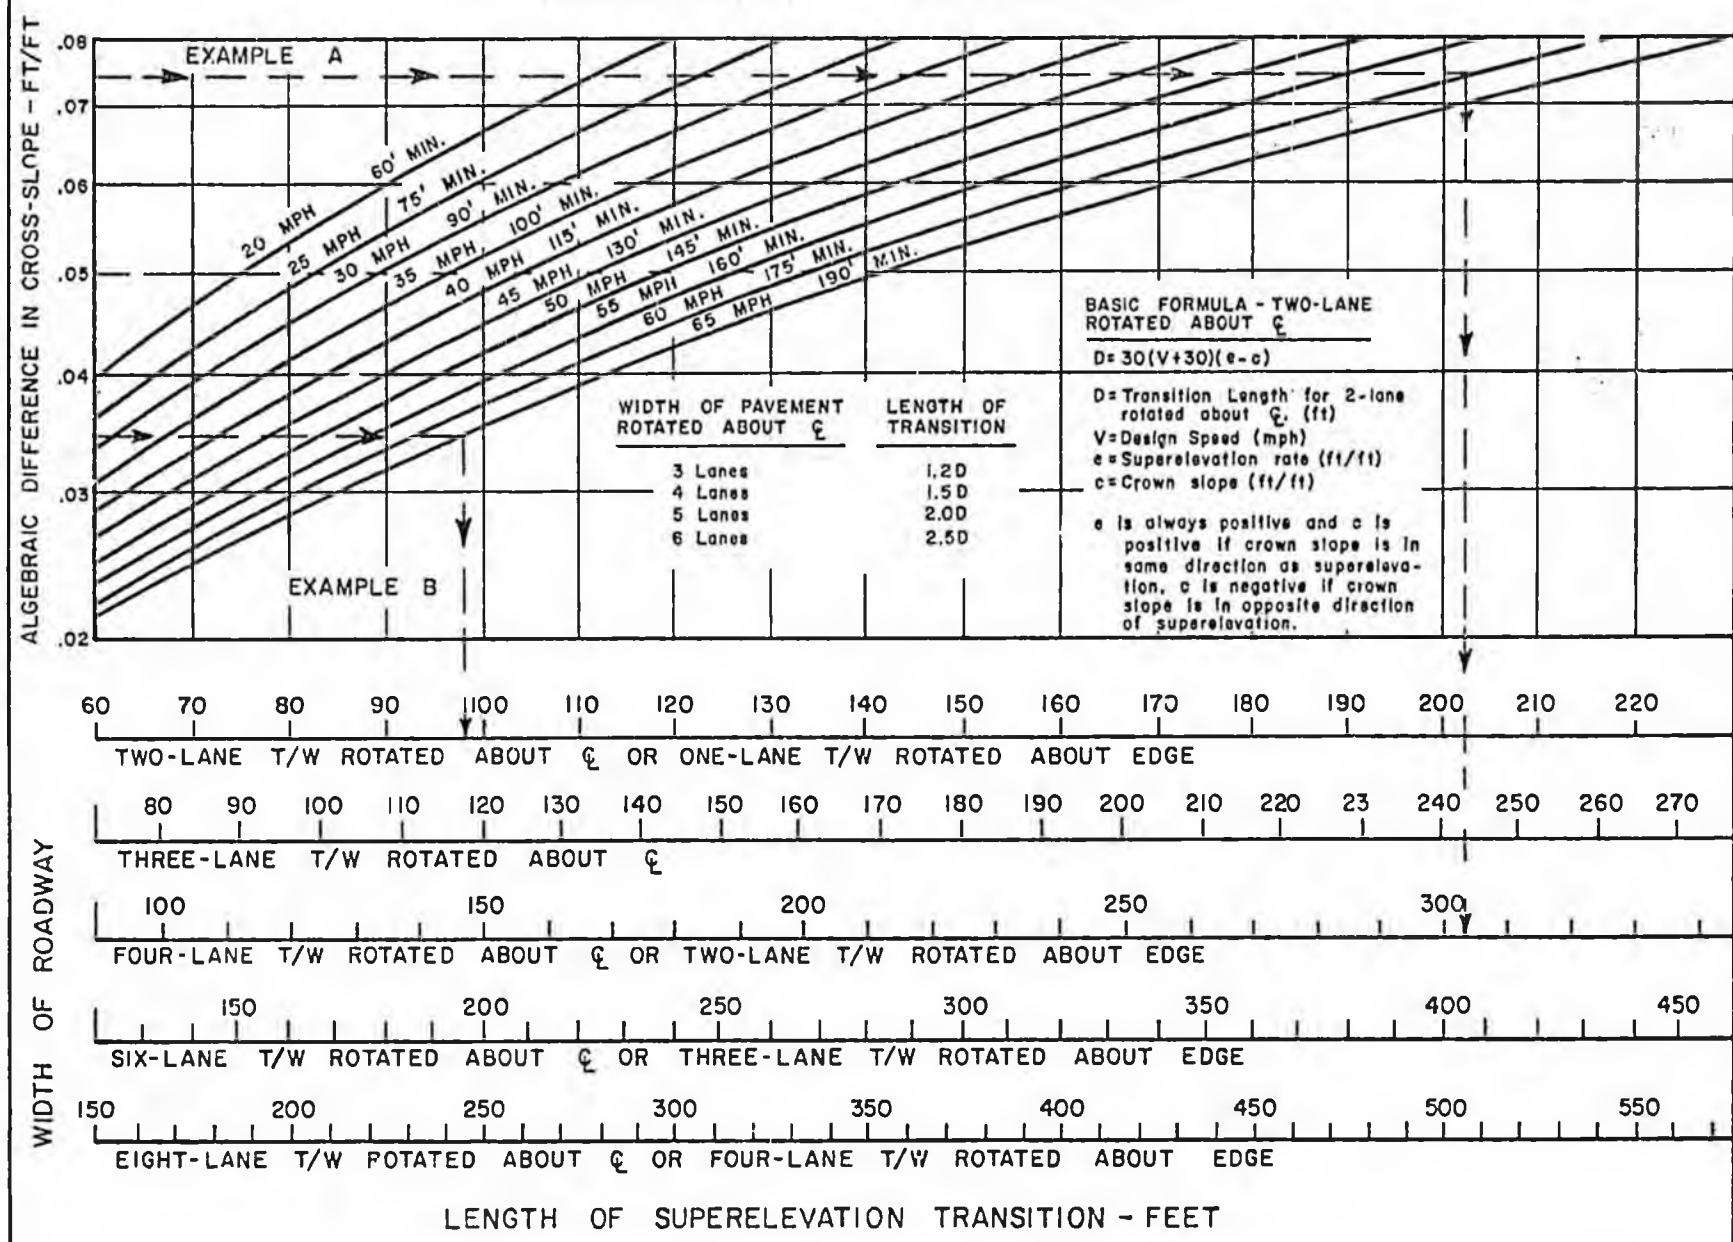

FIGURE 2
- Enter Figure 2 at the point on left vertical axis where the value equals the algebraic difference between the crown slope at the beginning of the transition and the full superlevation achieved for the horizontal curve. Examples: A = 0.015 super - (-0.01) crown = 0.025. B = 0.55 super - 0.02 crown = 0.035.
- Two-way roadways and one-way urban streets are normally rotated about centerline to minimize roadway distortion, shorten transition lengths and minimize costs. Where such rotation about centerline will cause drainage problems, or other undesirable conditions, rotation about inside edge of traveled way may be warranted. Where appearance of elevated outside edge or other condition warrants, the traveled way may be rotated about the outside edge. Whenever edge of traveled way is used for the point of rotation, the superlevation transition will be correspondingly longer as indicated in Figure 2.